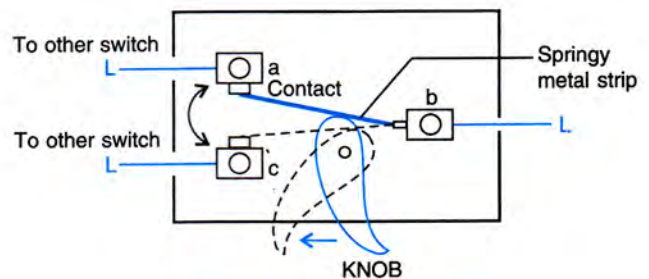

Fig. 9.20 Dual control switch
The connections of a dual control switch are illustrated in Fig. 9.20. It is operated in two ways : (1) by shifting the knob of switch to the right (or up), the live wire L connected at the terminal 'b' makes contact to the terminal 'a' so as to make the connection 'ba' through the spring metal strip, and (2) by shifting the knob to the left (or down), the terminal 'b' makes contact with the terminal 'c' so as to make the connection 'bc'.